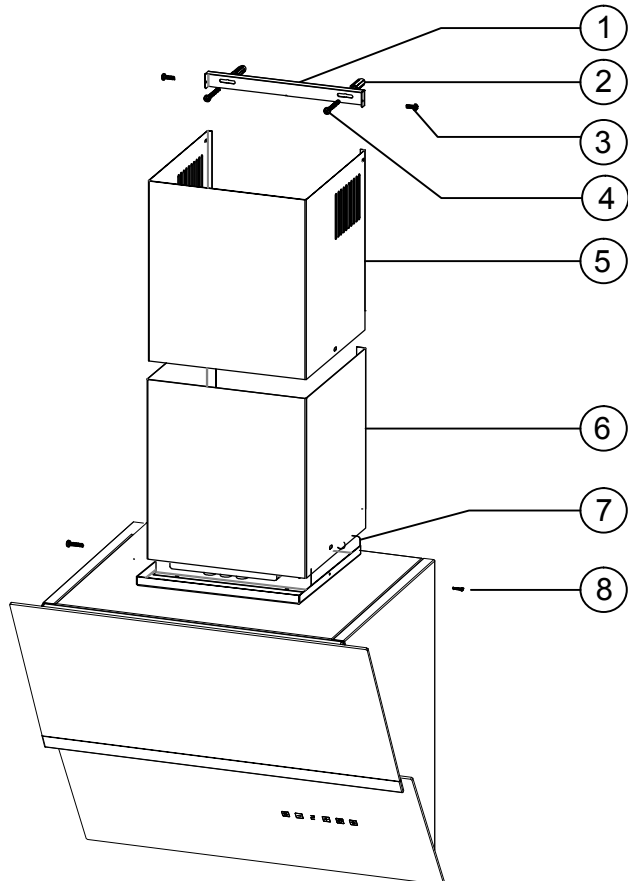

Figure A6
- 2- Screw the lower flue panel to the range by using 3,9x9,5 screw(8) as shown in the figure A6.